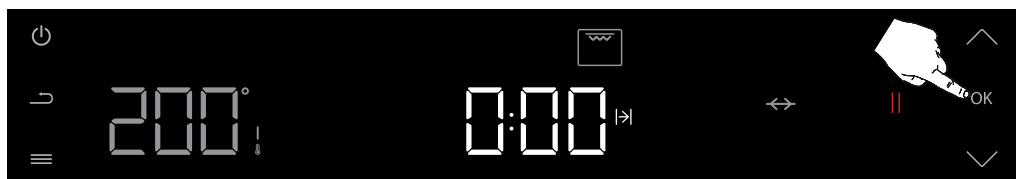

Figure 65
Press the confirm button (OK) once to confirm the temperature selection. (see figure 65)